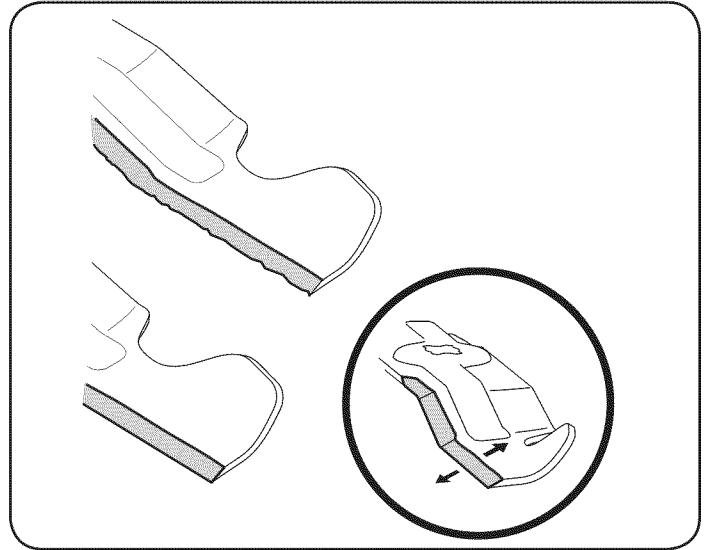

Figure 21
4. To properly sharpen the cutting blades, remove equal amounts of metal from both ends of the blades along the cutting edges, parallel to the trailing edge, at a 25°- to 30° angle. Always grind each cutting blade edge equally to maintain proper blade balance. See Fig. 21.